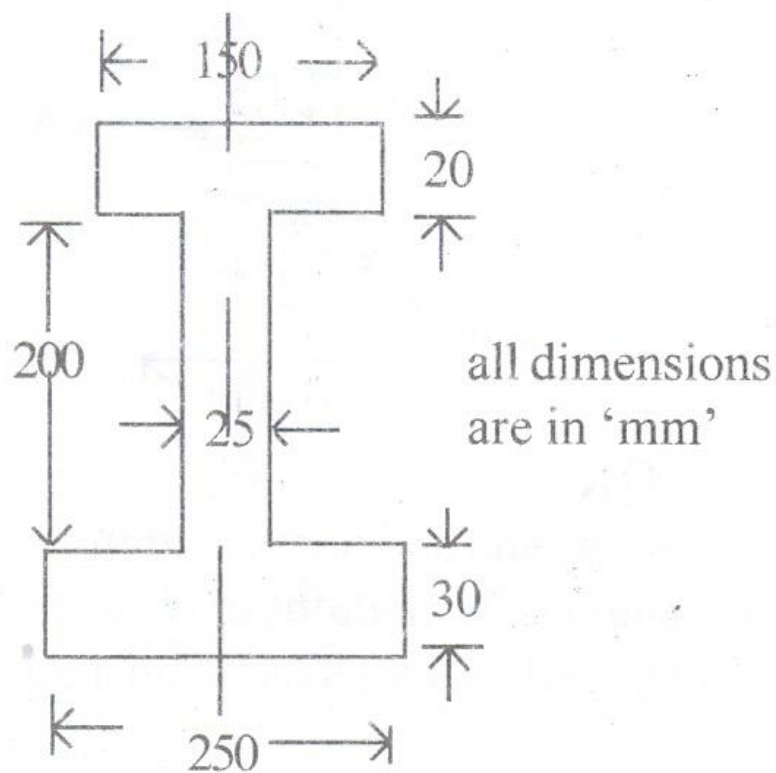

Fig4
2. Determine the second moment of area of an I-section (shown in fig.4) about its centroidal axes xx and yy . (16)